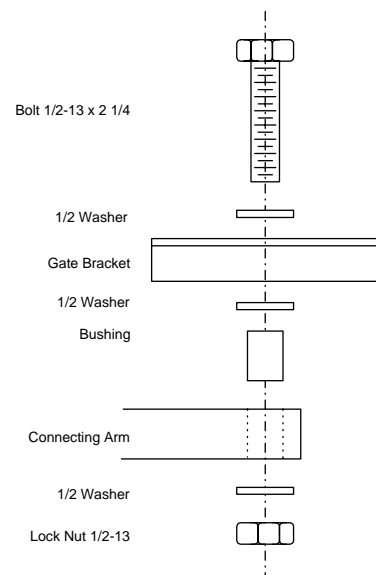

Figure 17
2. Once the crank arm assembly length is set, slide one end of the connector arm through the connector assembly and attach the other end to the gate bracket as shown in Figure 17. Attach the arm to the bottom side of the gate bracket.